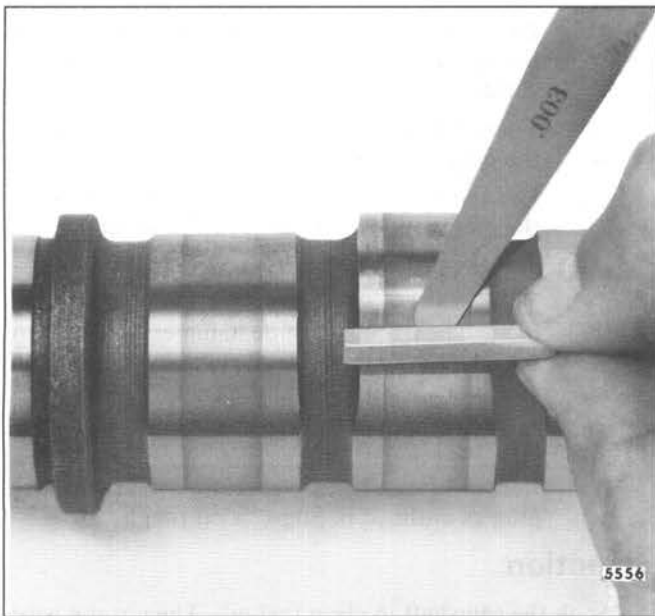

Fig. 8 - Checking Cam Lobe Wear
1. With a tapered leaf set of feeler gages (.0015" - .010") and a piece of square hard material (1/8" x 3/8" x 1"), measure the flat on the injector rise side of the cam lobes (Fig. 8).